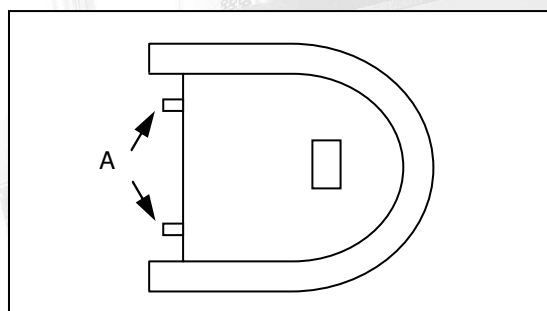

Figure 2. Stand Base
1. Place one of the stand bases on the floor with the German Physiks logo facing upwards as shown in figure 2.
2. Take one of the stand back panels and hold it vertically as shown in figure 3i. Carefully insert the stand back panel into the cut-out in the rear of the stand base, ensuring that the two locating dowels in the base (A, figure 2) fit into the matching holes in the stand back (A, Figure 3i).